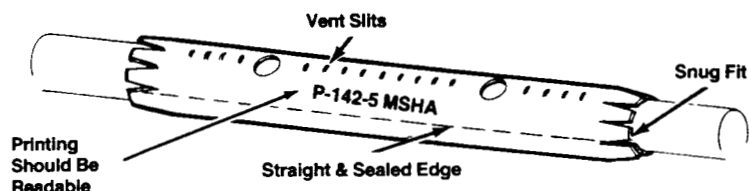

Figure 5
2. With cable straight, center mold over repair area with vent slits on top. Wrap snugly around, tucking one edge under. (Figure 5)